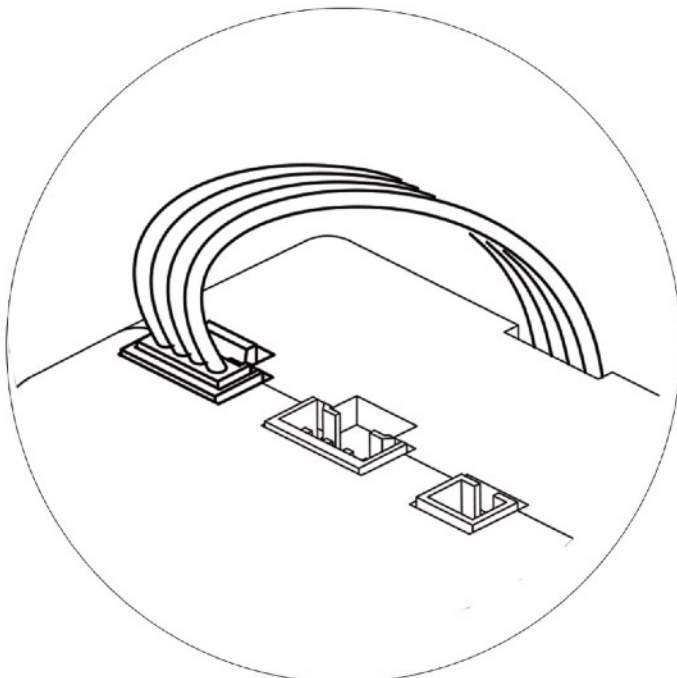

Fig. 12
4. Press the connector into the socket on the Deadbolt Lock Body. Make sure the connector is securely in place. ( Fig. 12)